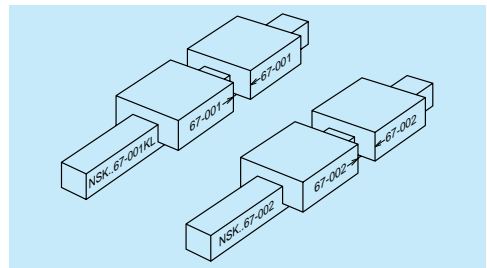

Fig. II-9-29 When two rails have the same reference number
- When two or more rails are used in a single set, serial numbers are in sequence if their reference numbers are the same. The linear guide with smallest serial number has the "KL" mark (Fig. II-9-29).